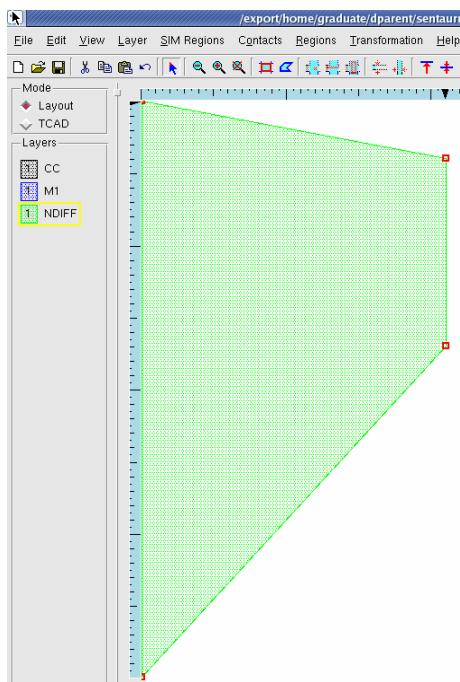

Figure 21: Results of setting the lower left corner to  $x=0$  and  $y=0$ .
9. In a similar manner edit the lower left corner to be **0,0** (Figure 21).